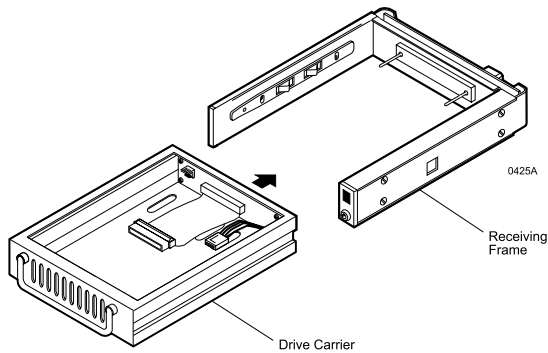

Figure 2: DE100 Receiving Frame and Carrier
The StorCase Technology Data Express® DE100i-SW and DE100i-SWC are removable drive carriers and receiving frames designed to provide durable and reliable mounting for one (1) 3.5" SCSI drive within a 5.25" half-height peripheral slot (Figure 2).